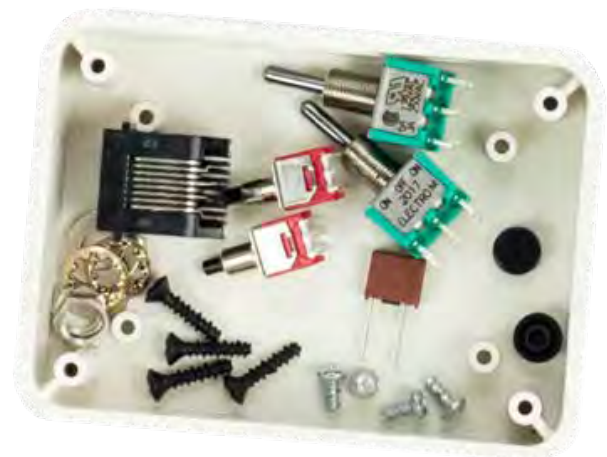

Figure 4
- Place the eight small screws (4 silver, 4 black) in a safe place such as in the control box to prevent them from being misplaced. (Figure 4)